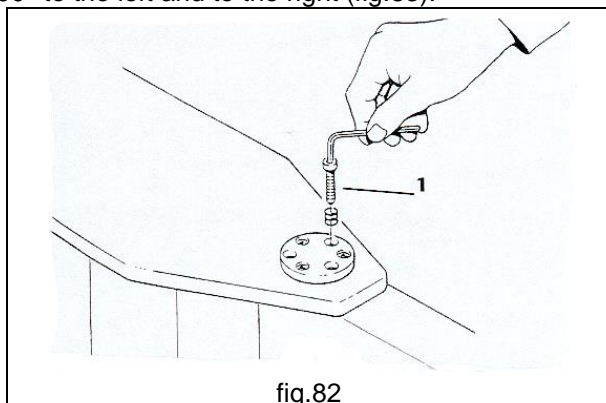

fig.82
1. Regulate the slidability of the rotation of the arm, using the braking system by means of the adjusster screws 1, until you obtain the required flexing sensitivity (fig.82).